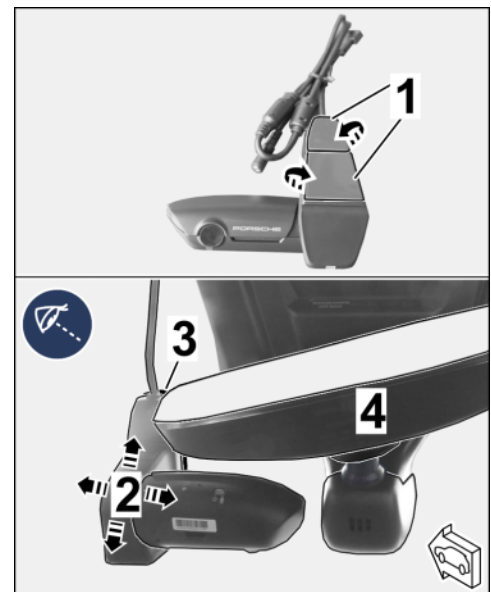

Figure 9
2.2.4 Pull protective film off the front camera retainer plate (⇒ *Figure 9-top-*).
Align front camera with retainer plate symmetrically with respect to the 3M privacy film (⇒ *Figure 9-bottom-*).